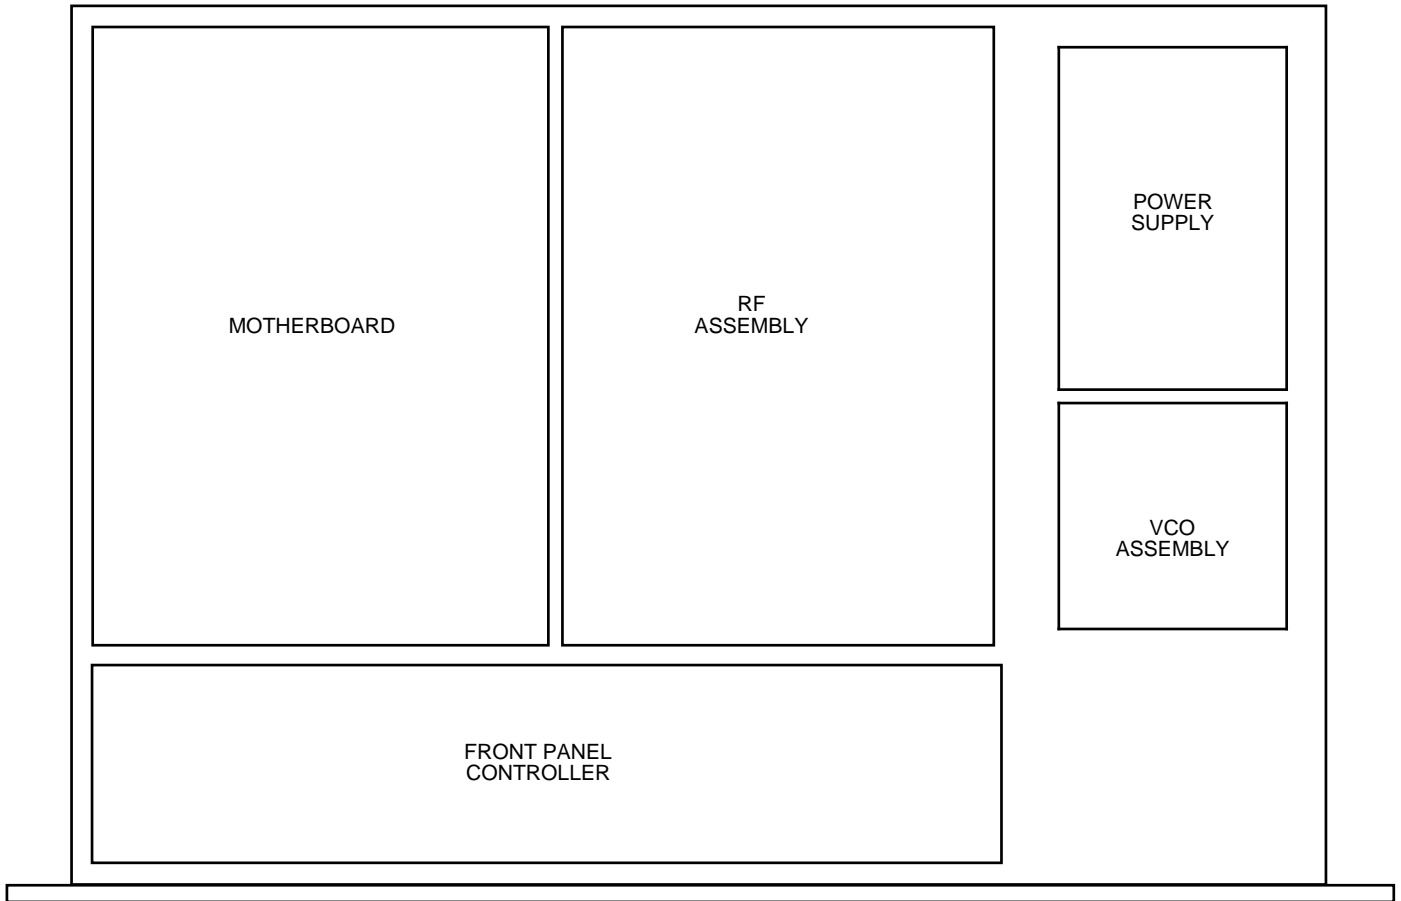

FIGURE 2.0 3115-41-184 Mechanical Assembly
2.1 Mechanical - The 3115-41-184 W60 Multi-Band Block Upconverter consists of a controller board and RF plate assembly. A switching ± 12 , +24, +5 VDC power supply provides power for the assemblies. The 3115-41-184 W60 can be secured to a rack using the 4 holes on the front panel. Figure 2.0 shows how the 3115-41-184 W60 is assembled.